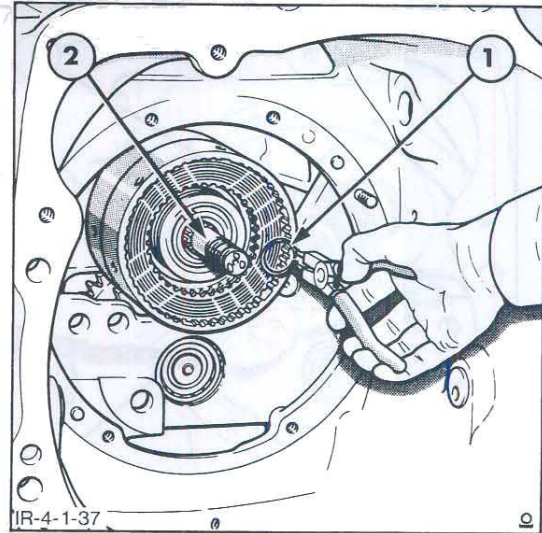

Figure 38
3. Remove the snap ring, Figure 38, then pull the clutch housing from the rear input shaft.
3. Retain the clutch on the shaft by installing the appropriate snap ring, Figure 38.